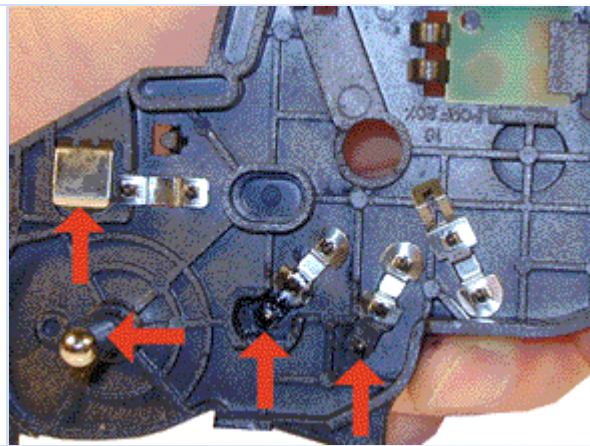

FIGURE 30
25. Clean off all the old conductive grease from the left end cap. Reapply new grease to all the contact points including a small amount on the drum axle shaft. Remember, when using conductive grease, more is not better. Just use a small amount on each point. See Figure 30